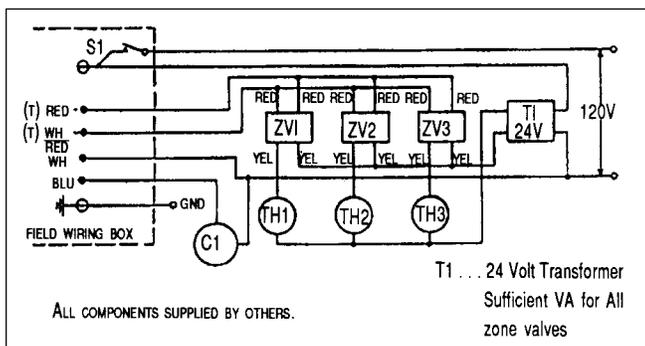
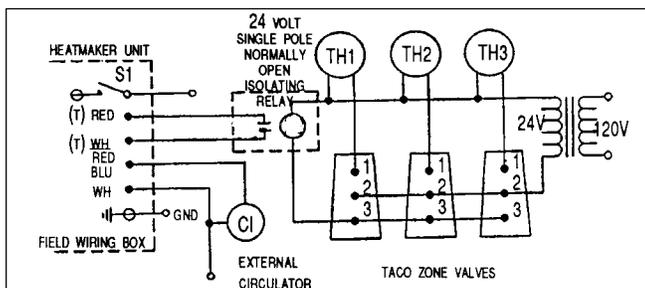

Figure 19. Zoning with Zone Valves.
Figure 20. Zoning with 3 Wire Zone Valves.
3. Zone Valves and Thermostats: Fig 19 (Fig 20 for 3 wire zone valve such as TACO) or DC magnetrol valves.
**NOTE:** On zone valve systems such as Taco, Automag and others which do not have isolated (dry) contact end switches, a single pole isolating relay must be utilized. (see Figure 20).
Do not connect an external voltage source to the HP 24 volt (T-T) wires. Install an isolation relay if required per diagram Figure 20.